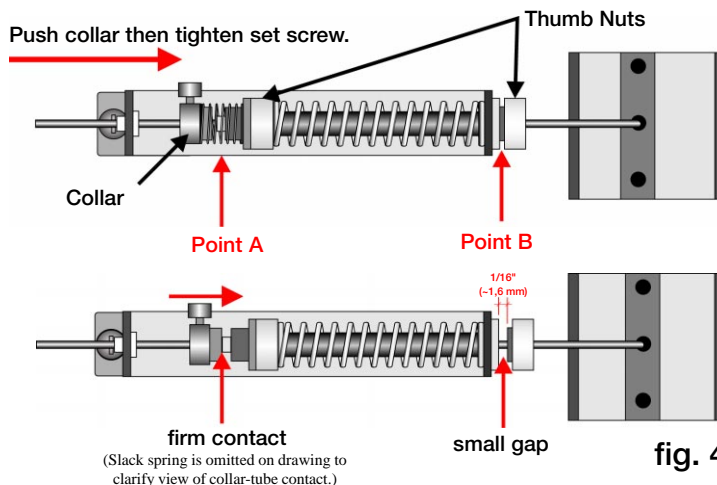

fig. 4
4) Now lay the guitar face down on your lap with the neck going off to your left, being sure you do not touch the tremolo or tremolo arm. The tremolo must be able to swing free. Equally loosen the two-spring adjustment screws $\frac{1}{2}$ to 1 full turn. With the brass collar's set screw loose, push the brass collar to your right against the end of the threaded tube (see fig. 4) so that a small gap of about $\frac{1}{16}$ " (1,6 mm) appear at point B. Now tighten the setscrew and let go of the brass collar. What should happen is this; when you push the brass collar to your right to open a gap of $\frac{1}{16}$ " (1,6 mm) at point B, you compressed both the slack spring and the buck spring (see fig.). Now, you tighten the brass collar set screw which "locks" it to the pull rod. When you let go of the brass collar, the buck spring expands, forcing the gap at point B to close. Also, it pulls the sustain block back to its original position. (Remember you loosened the two spring screws $\frac{1}{2}$ to $\frac{3}{4}$ of a turn (step 3). When you did this, the sustain block moved to the right by about $\frac{1}{16}$ " (1,6 mm). Now the Tremsetter pulls the sustain block back to the left to its original position.
Check that the collar is in firm contact with the end of the tube at point A (Fig.4), and that the thumbnut is in firm contact with the face of the busing at point B. When the tremolo is in "neutral pitch" position, there must be contact at these two points.
To increase tremolo stability, tighten the Tremsetter thumbnuts towards each other (Fig. 4). This will compress the buck spring, which effectively counters the additional forces introduced during string bending, vibratos, fine tunings, muting, etc. You will notice that your tremolo arm pressure increases as you tighten the buck spring. Fine tune the precise feel of your arm; find the setting that feels comfortable at the tremolo arm and also gives you adequate bridge stability.